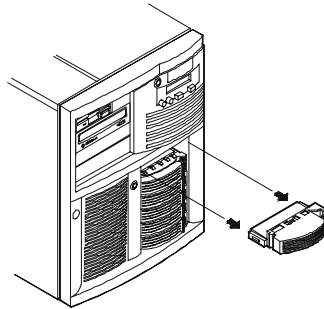

Figure 4-12. Hot Swap Drive and Filler Panel
- b. Using your fingers, pull the filler panel straight out. See Figure 4-12.